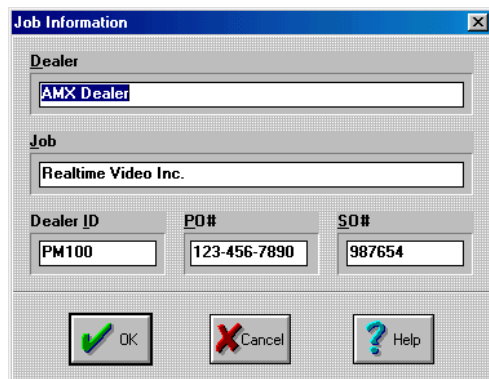

FIG. 5 Job Information dialog
3. Click File > Job Info to open the Job Information dialog shown in FIG. 5. Enter the dealer name, job number, AMX Dealer ID, purchase order (PO) number, and sales order (SO) number. Then, click OK to save the job information, close the dialog, and return to the main menu. The job information is used by AMX Corporation to track your program file and its disposition throughout the engraving process.